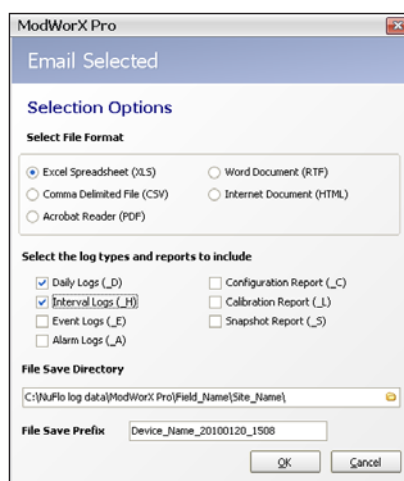

Figure 14.31
2. The Email Selected window will appear (Figure 14.31). Select the file format desired and select the log types/reports desired using the checkboxes provided.